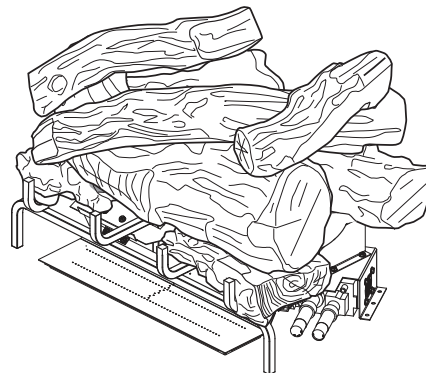

Figure 26 - Final Assembly
8. Final Assembly is shown in **Figure 26**. See **Figure 27 on Page 19** for additional views.